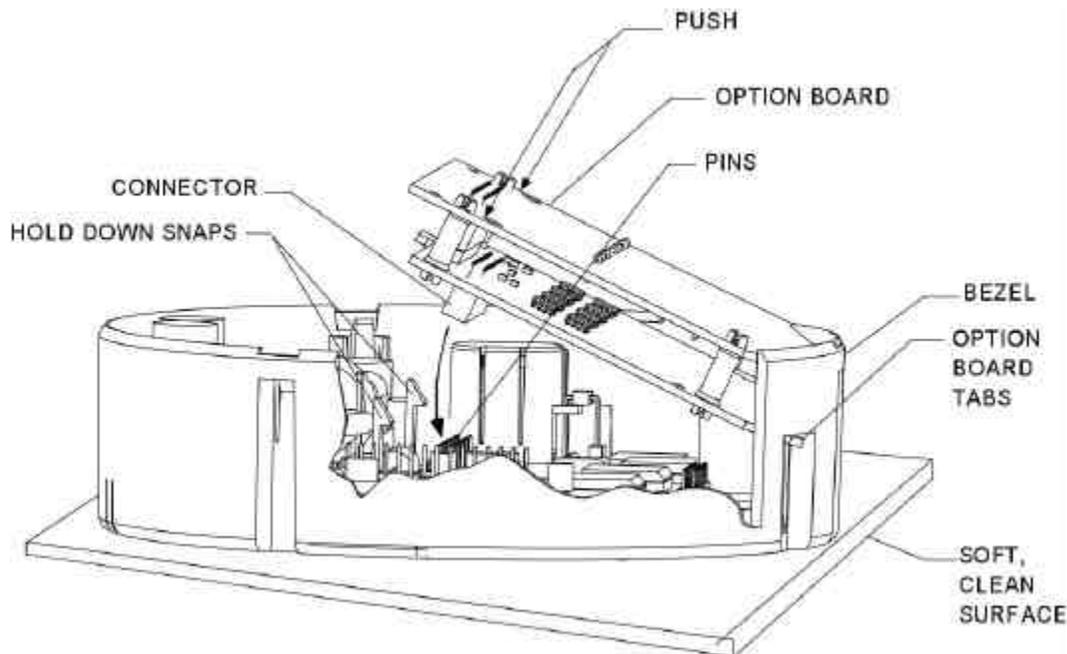

Figure 2-6. Load Profile & I/O Option Boards
3. On bottom of I/O board, insert the four PC board spacer posts into the four holes shown in figure 2-6.